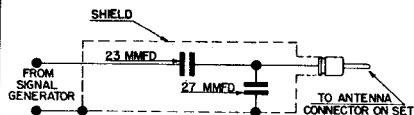

Fig. 9. Dummy Antenna
Figure 9 shows the schematic of a recommended dummy antenna, closely resembling actual antenna capacity, to be used in series with signal generator leads when aligning the R.F. section of the receiver.
1. Connect signal generator leads through dummy, illustrated in Fig. 9, to antenna lead in socket on receiver. This is important.
2. Connect signal generator leads through dummy, illustrated in Fig. 9, to antenna receptacle on the receiver.